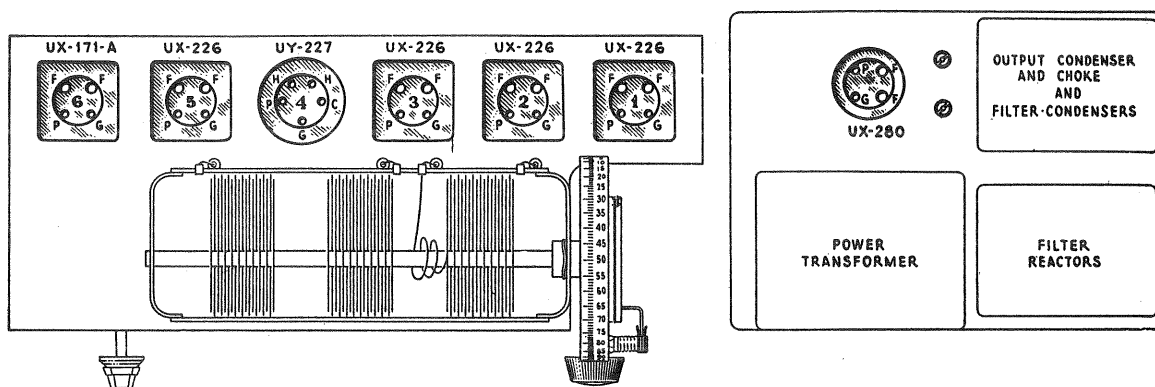
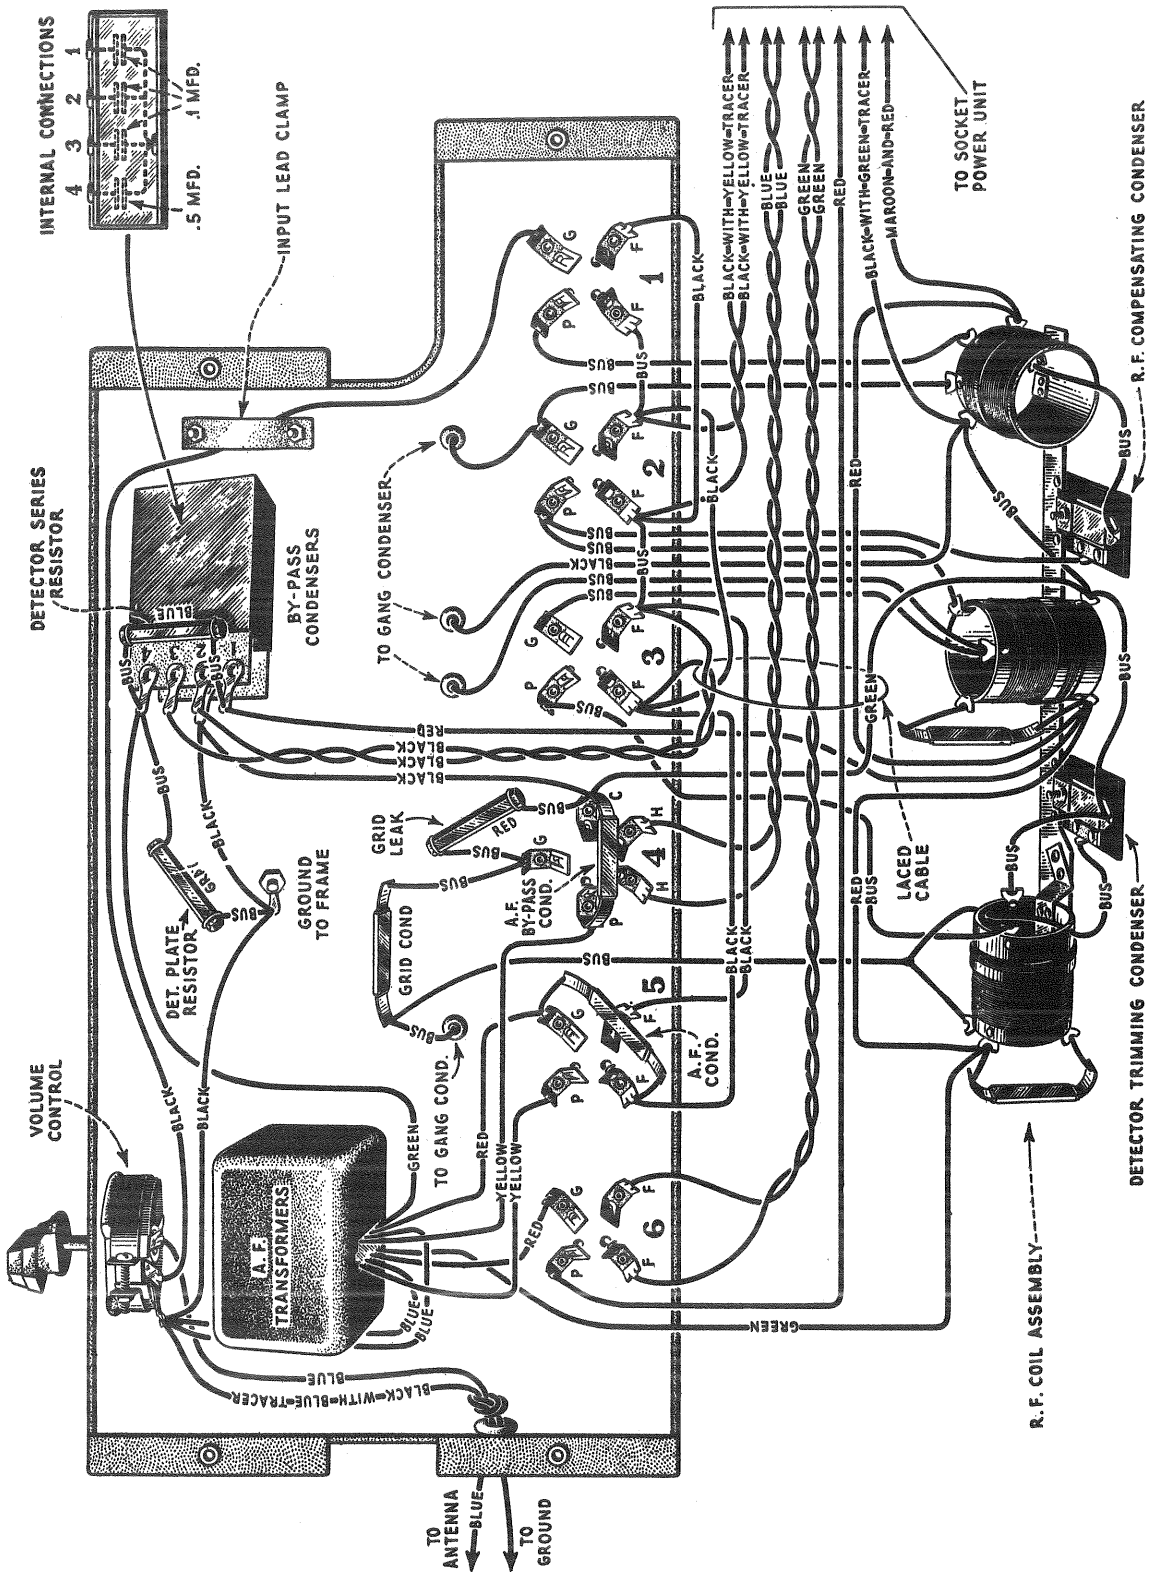
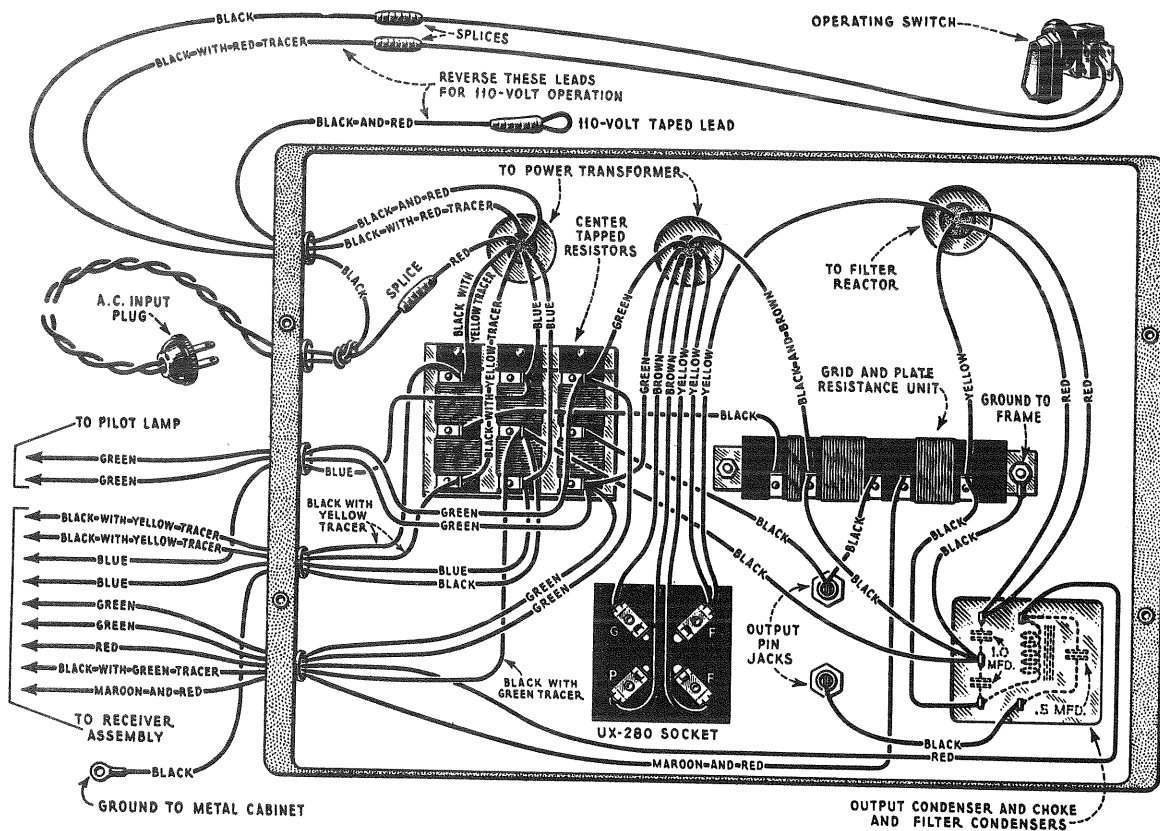

Figure 12—Diagram showing location of Radiotron socket contacts
Figure 14—Wiring diagram of receiver assembly—grid leak in some models is connected from grid of socket No. 4 to ground connection of frame instead of as shown
Figure 15—Wiring diagram of socket power unit
The following tests will show complete continuity for the receiver assembly (Figure 14) and the Socket Power Unit (Figure 15). Disconnect the antenna and ground leads and the A.C. supply cord at its outlet.
A pair of headphones with at least $4\frac{1}{2}$ volts in series or a voltmeter with sufficient voltage to give a full scale deflection when connected directly across the battery terminals should be used in making these tests. The receiver sockets, numbers and lugs used in these tests are shown in Figure 12. The S.P.U. terminals are shown in Figure 15.
- (i) Remove the two screws that hold the volume control to the metal chassis. It may now be removed and the new one fastened in place. The connections should be soldered to the new volume control. These connections are shown in Figure 14.
(2) REPLACING RADIO FREQUENCY COILS
- (e) Replace and resolder all leads to the three transformers. These connections are shown in Figure 14. When making this replacement be careful not to disturb the
- (f) Replace connections as indicated in Figure 14 for the correct socket connections.
(4) REPLACING MAIN TUNING CONDENSERS AND DRIVE
- (d) The four tabs holding the condenser to the chassis may now be bent up with a screw-driver and the old condenser replaced by the new one. Insert the tabs in the holes and bend them over on the upper side of the chassis assembly. Resolder the leads and resistors to their correct terminals. The connections are shown in Figure 14.
(6) REPLACING AUDIO FREQUENCY TRANSFORMERS
- (d) Place the new transformer in the position occupied by the old one, bend over the tabs and resolder all connections. The correct connections are shown in Figure 14.
(7) REPLACING CONDENSER DRIVE CABLE
- (d) Clamp the assembly in place by turning the tabs over on the under side of the base. Solder the connections as indicated in Figure 15.
(10) REPLACING EITHER POWER TRANSFORMER OR FILTER REACTOR
- (e) Connect all the leads from the assembly to the points of connection as in Figure 15 which should be followed exactly when any S.P.U. parts are replaced.